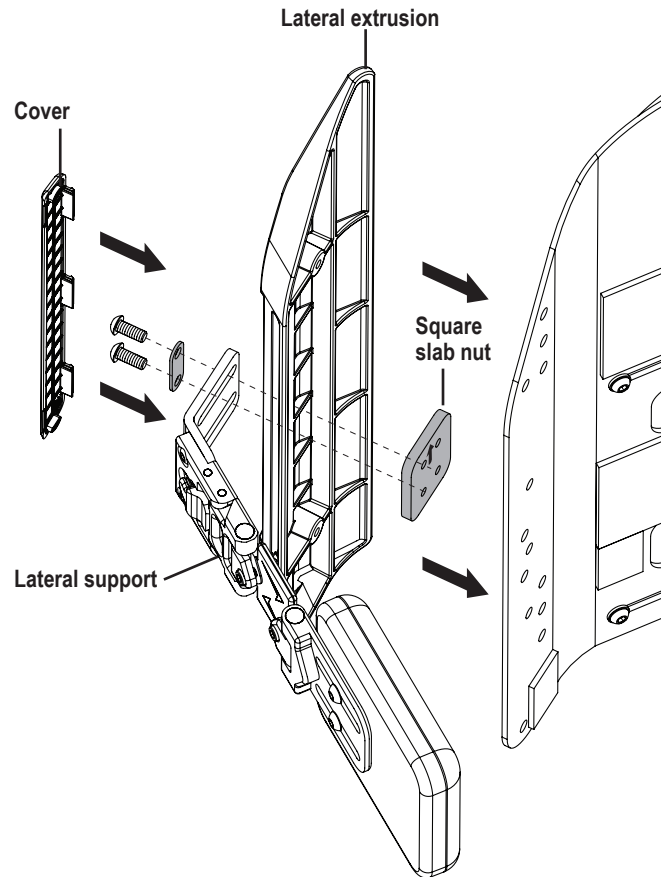

Figure 15. Laterals
3. Install the lateral support into the lateral extrusion. **See figure 15.**
4. Insert the spacer and the two (2) bolts through the lateral support and the square slab nut. Do not tighten completely.
1. Loosen the two (2) bolts in the lateral extrusion.
2. Slide the lateral support to the desired height and width. **See figure 15.**